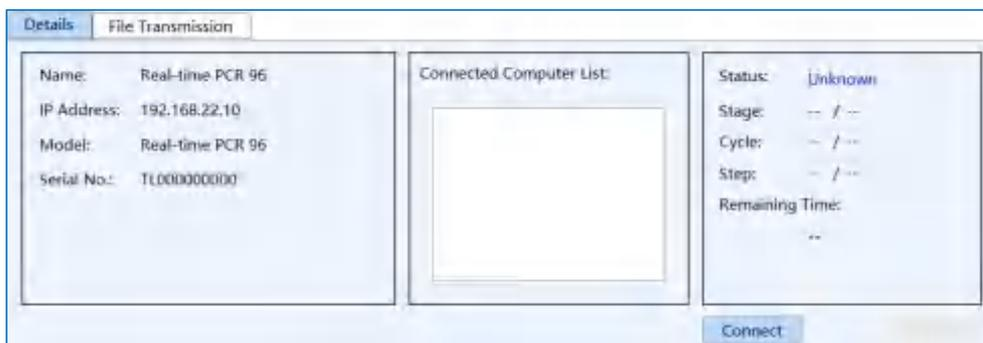

Figure D-2.2c Instrument Management interface - Details tab
- **Details** tab: includes 3 information areas and two function keys, as shown in figure D-2.2c.